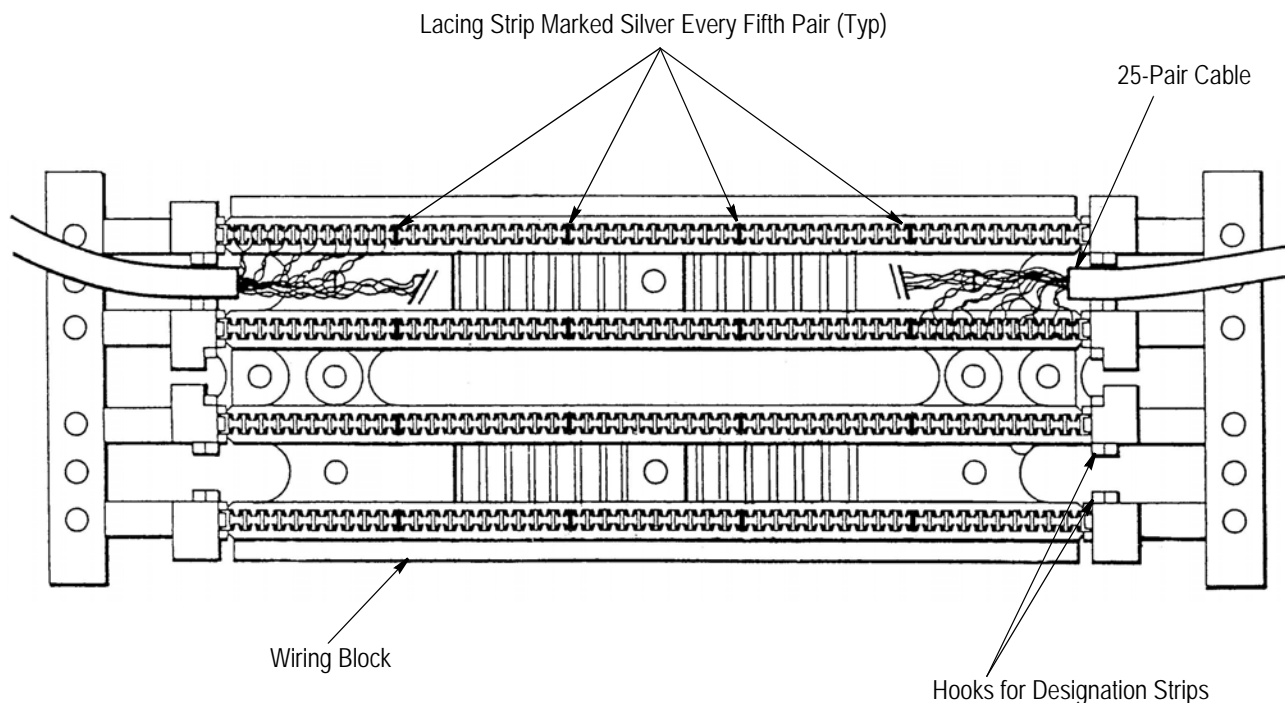

Figure 2
2. Route cables into wiring block as shown in Figure 2. Lace each pair into position in index strip slots while maintaining correct tip (white) and ring (colored) sequence. Complete lacing of index strip and inspect for accuracy (use silver markings as reference).